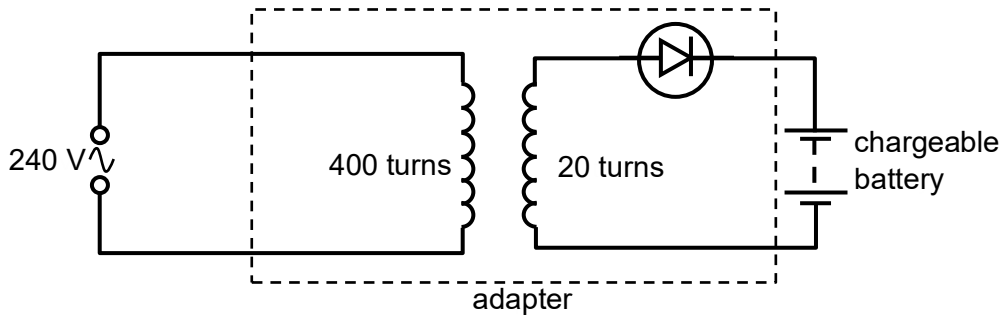

Fig. 8.1
- 8 Fig. 8.1 shows a simplified circuit diagram of a laptop adaptor connected to the chargeable battery of a laptop. The adaptor consists of a step-down transformer with a single diode.